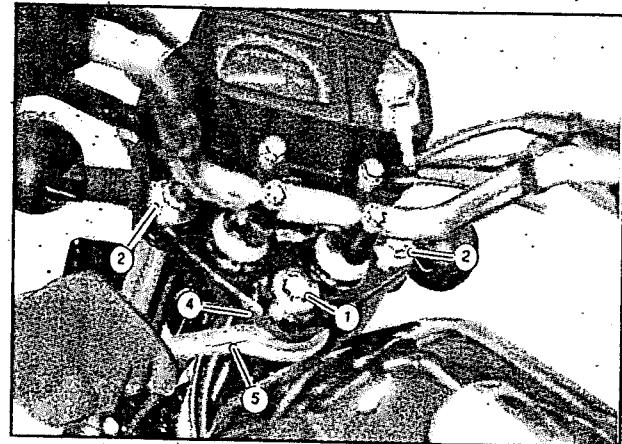
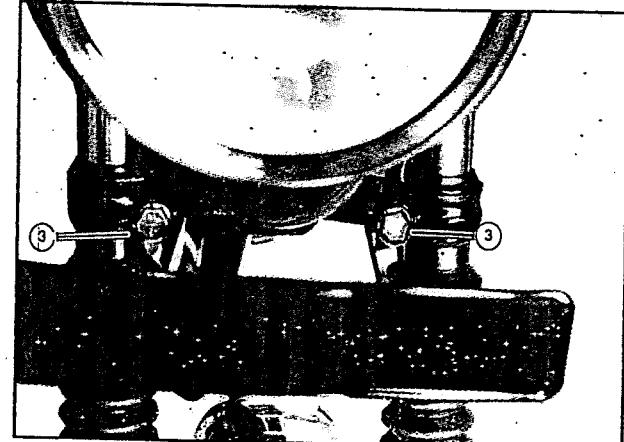

Fig 2.39
Fig 2.40
- Loosen the steering stem head bolt (1) the fork cap bolts (2) (fig 2.39) and lower clamp bolts (3) (fig 2.40)
- Turn the steering stem nut (4) clockwise or anti-clockwise to tighten or loosen the steering respectively. Use special tool (5). (fig 2.39)